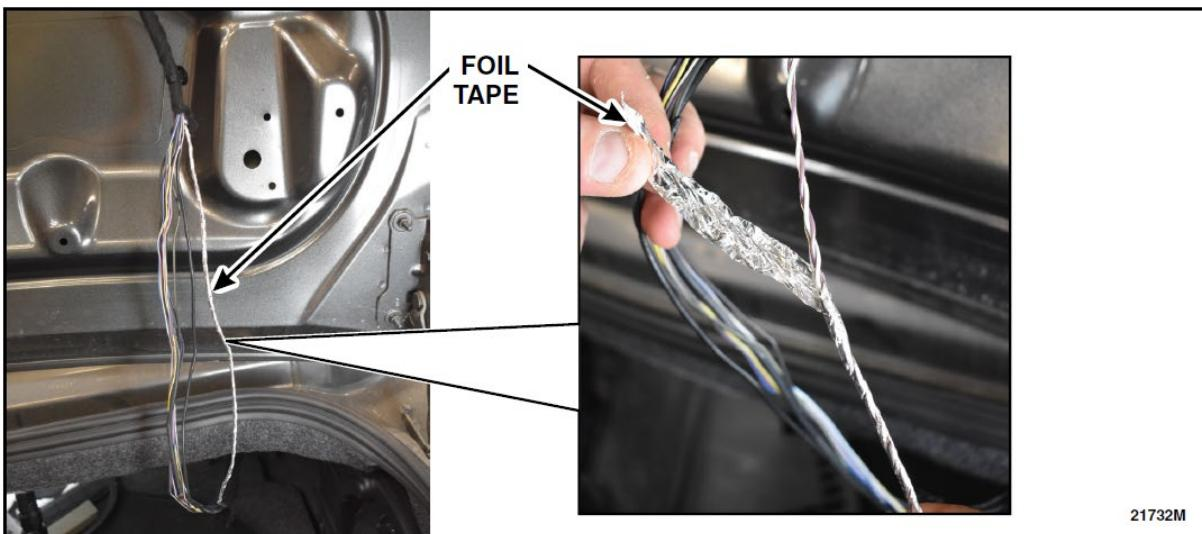

FIGURE 38
51. Carefully unwrap the foil tape on the twisted wires the full length of the exposed wiring. See Figure 38.